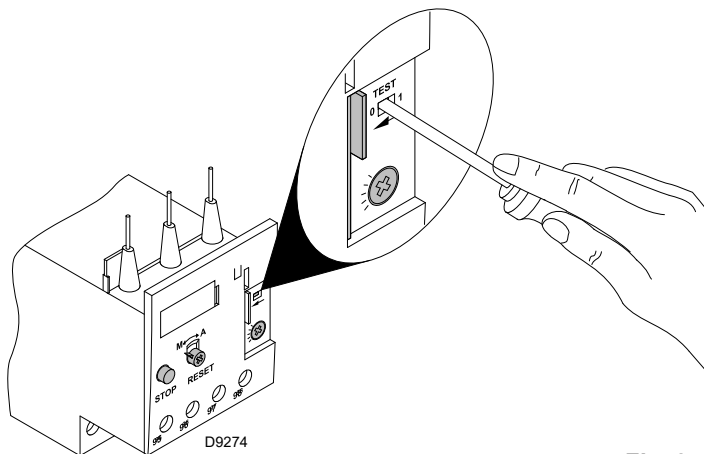

Fig. 25
- To test the thermal relay, insert a screwdriver in the window “TEST” (Fig. 25) and move it in the sense of the arrow (towards right).